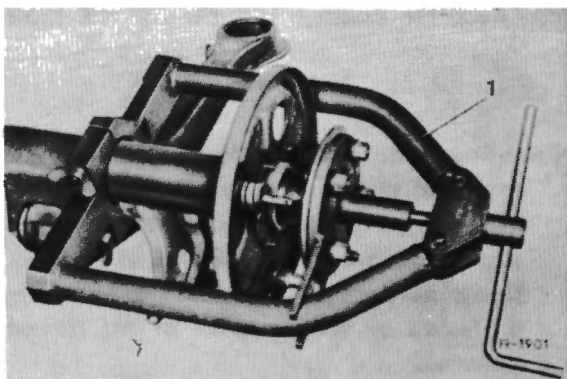

Fig. 35-3/3
8. Unscrew the hexagon nuts of the fitting bolts (9) or (59) for fastening the brake anchor plate (2) or the sealing ring retainer (56) to the axle tube (Figs. 35-3/1 and 35-3/2).
9. Attach Fixture 111 589 12 33 00 (1) to the flange of the rear axle shaft and the axle tube and pull the rear axle shaft off the axle tube by turning the spindle (Fig. 35-3/3).